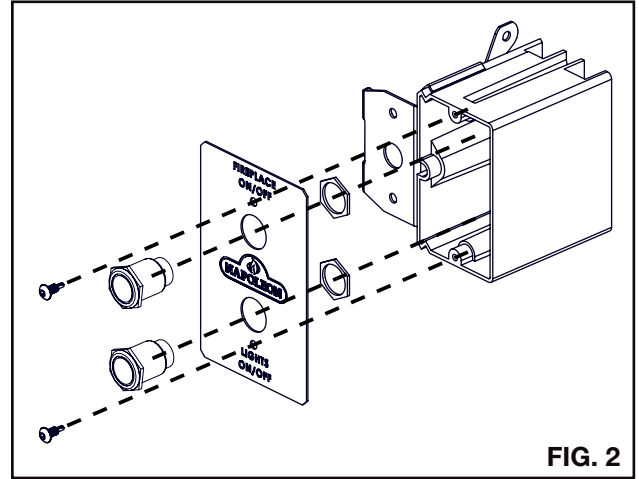

FIG. 2
2. Assemble the control switch. (FIG. 2)